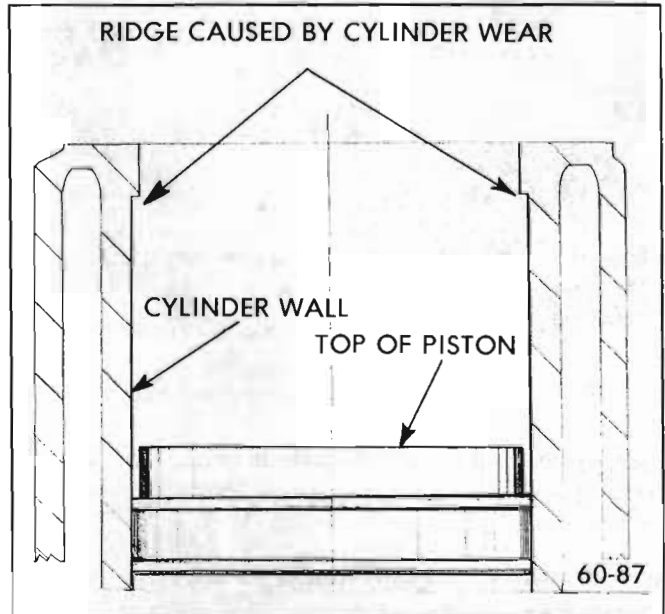

Figure 60-95 - Ridge Formed by Rings at Top of Travel
2. Examine the cylinder bores above the ring travel. If bores are worn so that a shoulder or ridge exists at the top of the cylinder, remove the ridges with a ridge reamer to avoid damaging rings or cracking ring lands in pistons during removal. See Figure 60-95.